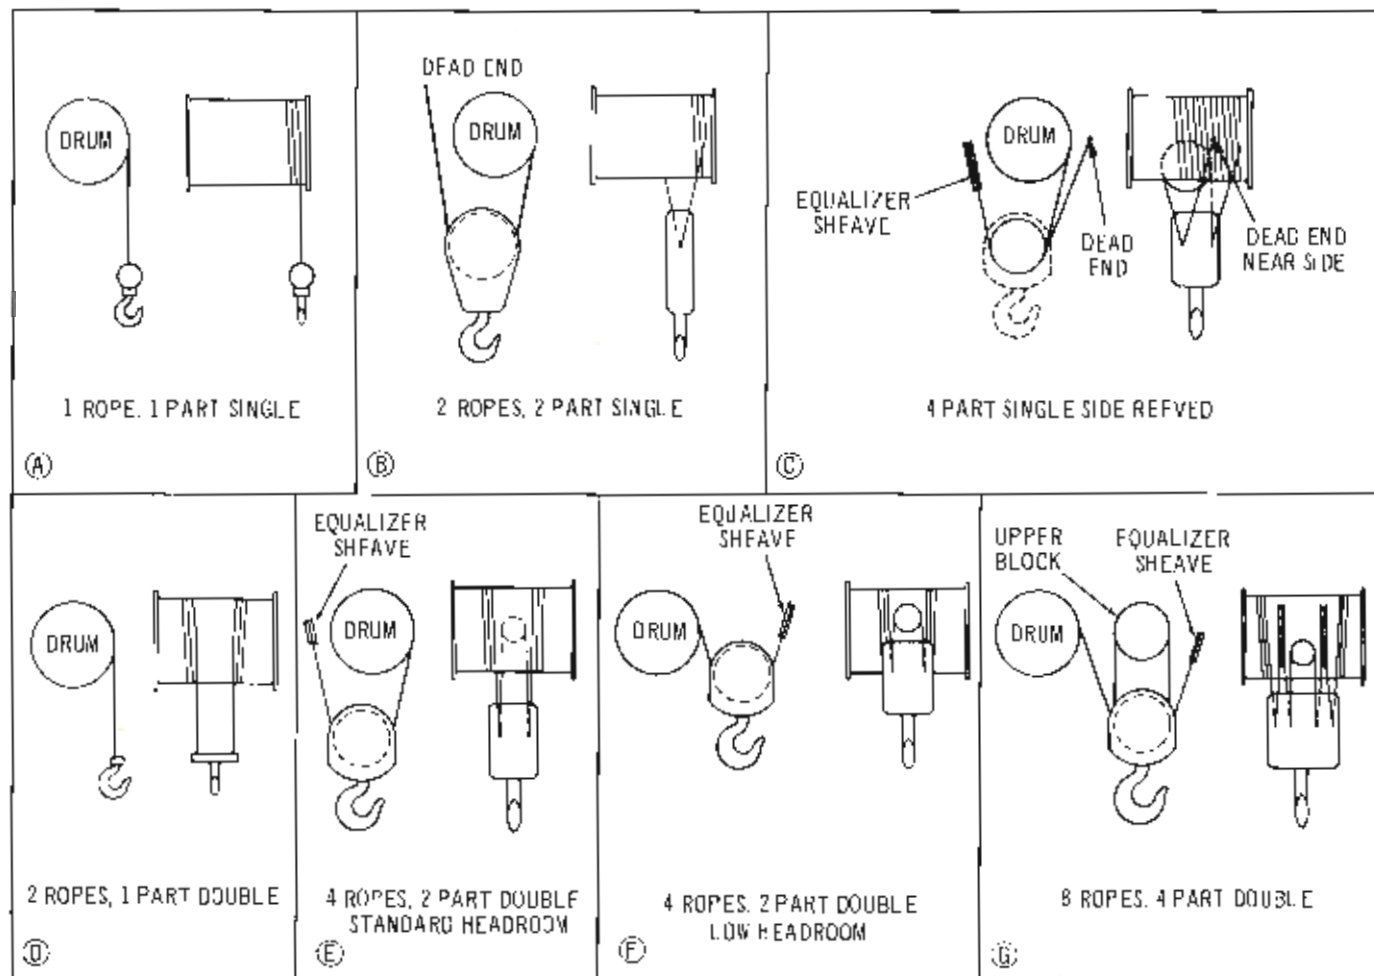
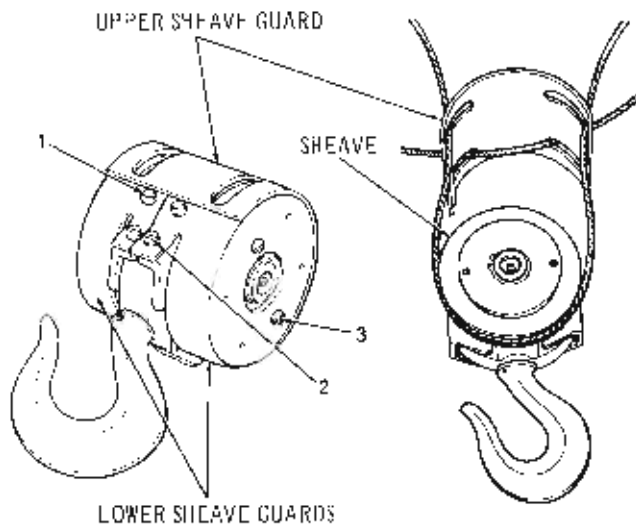
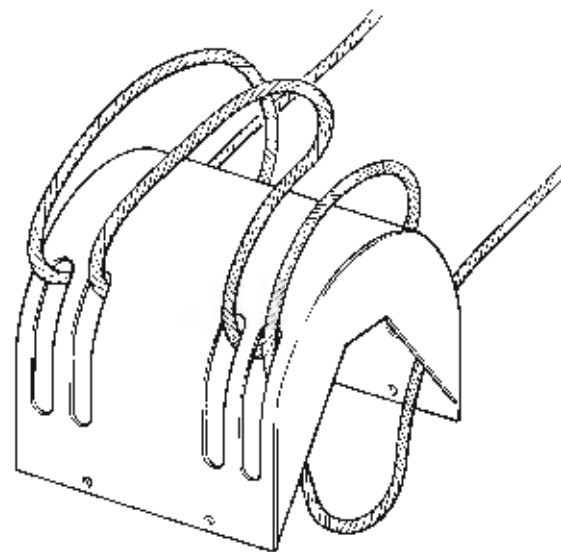

Figure 5-24. Basic Reeving Diagrams
Figure 5-26. Installing Wire Rope in Double Reeved Bottom Block
Figure 5-27. Wire Rope Threaded through Sheave Guard of Bottom Block for Four Part Double Reeving
REPLACEMENT. The replacement procedure varies with the particular type of reeving employed for the hoist. The basic reeving diagrams are illustrated in Figure 5-24. One-rope, one-part single reeving (A) and two-rope, one-part double reeving (D) require no special instructions. Instructions for the other types of reeving are outlined separately below.
TWO PART DOUBLE REEVING. Proceed as follows to replace a two part double reeved wire rope (see Figure 5-24, E and F, and Figure 5-26):
FOUR PART SINGLE SIDE REEVING. Replacing a four part single side reeved wire rope (Figure 5-24, C) is the same as replacing a two part double reeved wire rope except that only one end of the wire rope is inserted into the drum and the other end of the wire rope is the dead end which is attached to the hanger. The limit switch counterweight rides on the dead end of the wire rope.
FOUR PART DOUBLE REEVING. Proceed as follows to replace a four part double reeved wire rope (see Figure 5-24, G, Figures 5-27 and 5-28):
10. Thread the live end sockets through the inner slots of the sheave guard (see Figure 5-27). Then thread the live end sockets through the outer slots of the sheave guard.